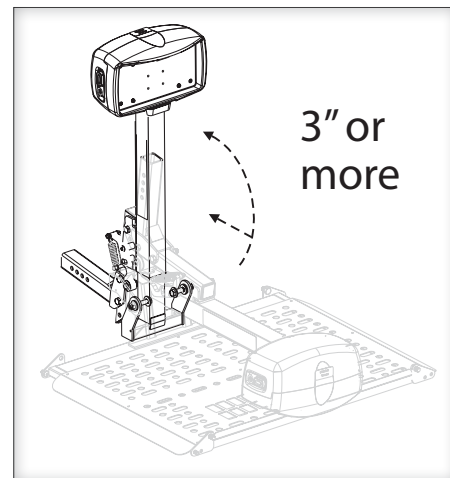

Figure 16-3
**5. When extended 3" or more flip up to vertical.** [Figure 16-3]